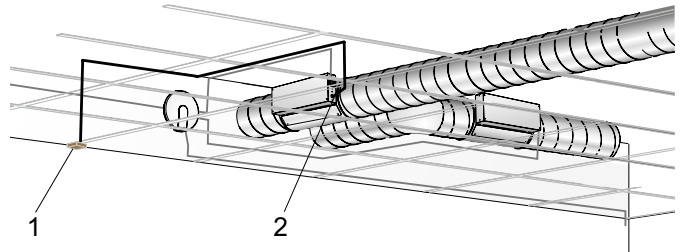

Figure 3. Installation of extension cable for TUNE Adapt.
- LINK Tuneadapt, extension cable for TUNE Adapt, see figure 3.